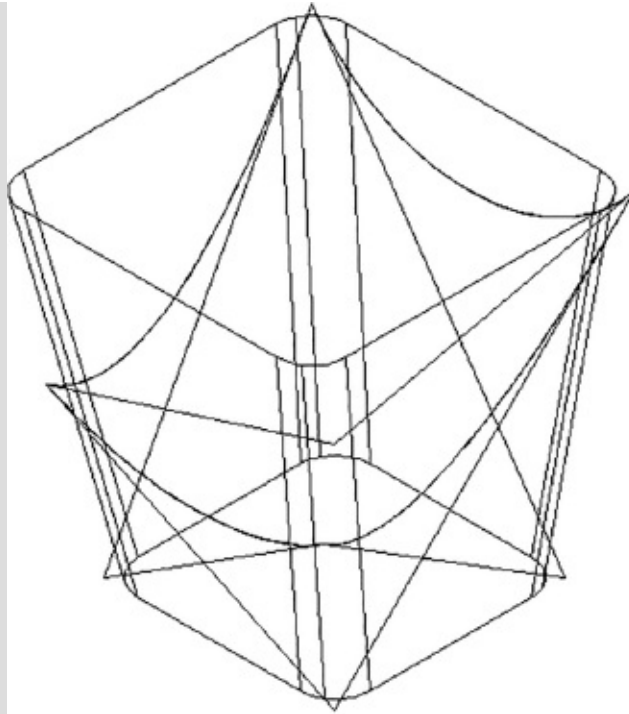

FIGURE 21.37 The lofted rectangles form a 3D solid.
Another great way to jump quickly between UCSs is to use the UCS Face option. The Face option requires a 3D solid, but once you have one in place, you can choose Face from the View flyout on the Visualize tab's Coordinates panel and then click on the face of the solid to which you want to align your UCS. For example, you can use the Loft command (see the section "Shaping the Solid" later in this chapter) to create a solid similar to the solid shown later in Figure 21.37 that connects the top and bottom rectangles of the butterfly chair. You can then use the UCS Face option to align to the sides of that solid to draw the arcs and polylines for the seat outline. This way, you're using the 3D solid as a layout tool.
3. At the Enter an option [Guides/Path/Cross sections only/Settings] <Cross sections only>: prompt, press **↵**. The rectangles join to form a 3D solid (see Figure 21.37).